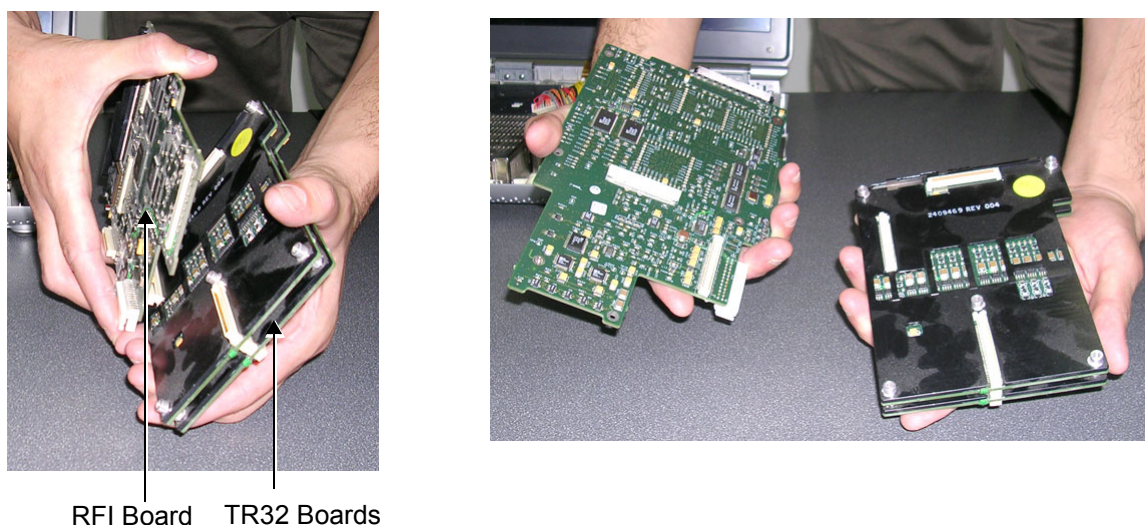

Figure 8-50 Removing the RFI Board from the TR32 Boards
- 9.) Remove the RFI Board from the TR32 Boards (separate by gently pulling them apart), as shown in Figure 8-50 below.
- 2) Connect the TR32 Boards to the RFI Board (gently press together as shown in Figure 8-50 on page 8-43).